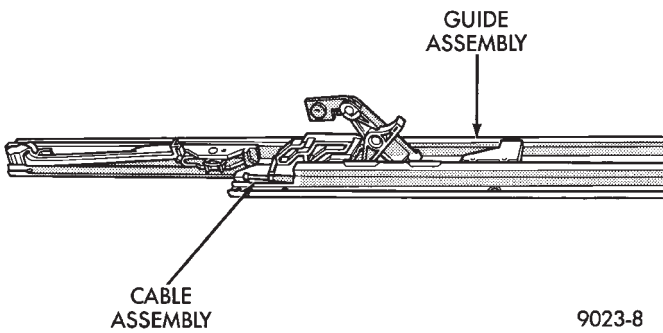

Fig. 8 Guide Assembly
(1) Remove wind deflector, mechanism covers, glass panel, drain channel, sunshade and drive cable locator as necessary.
(2) Move glass carriage to vent position.
(3) Remove front slide from guide assembly.
(4) Remove screws holding front and center guide track to unit.
(5) Pull cable out of groove for cable end.
(6) Pull guide outward to release from housing. Separate rear end of guide from clips. Slide guide out of unit Fig. 8.